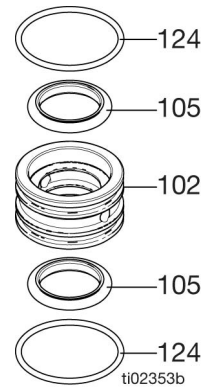

FIG. 19 Seal cartridge
18. Reinstall the seal cartridges (see FIG. 19 for the order of the seals (105) and o-rings (124) into the lower housing (101). Apply a thin coat of grease on the housing lead-in (130) to ease installation and ensure that the seals are not damaged.